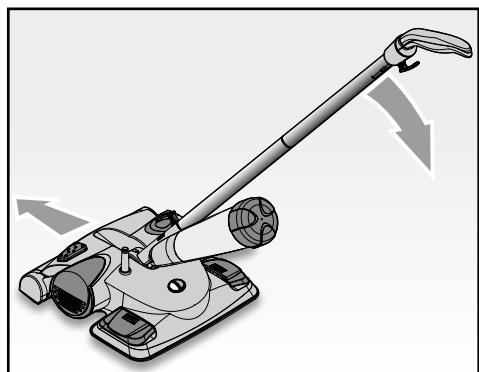

Fig. 4
- Tilt the handle (I); turn the handgrip (H) in the opposite direction to use and proceed to use the suction function (Fig. 4).
**IMPORTANT:** Switch off the appliance immediately, returning the handle (I) to the upright position if dirt or fragments, such as the fringe on a rug, etc. should become caught up in the brush (G). Unplug the appliance from the power mains and proceed to clean it.